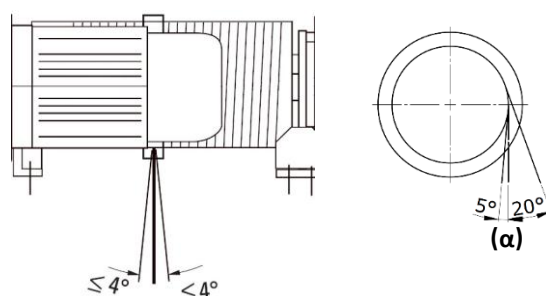

Figure 4.0.4
- The max. permissible rope exit angle is 4° and also the radial rope exit angle (α) is 5° and 20° (Figure 4.0.4).